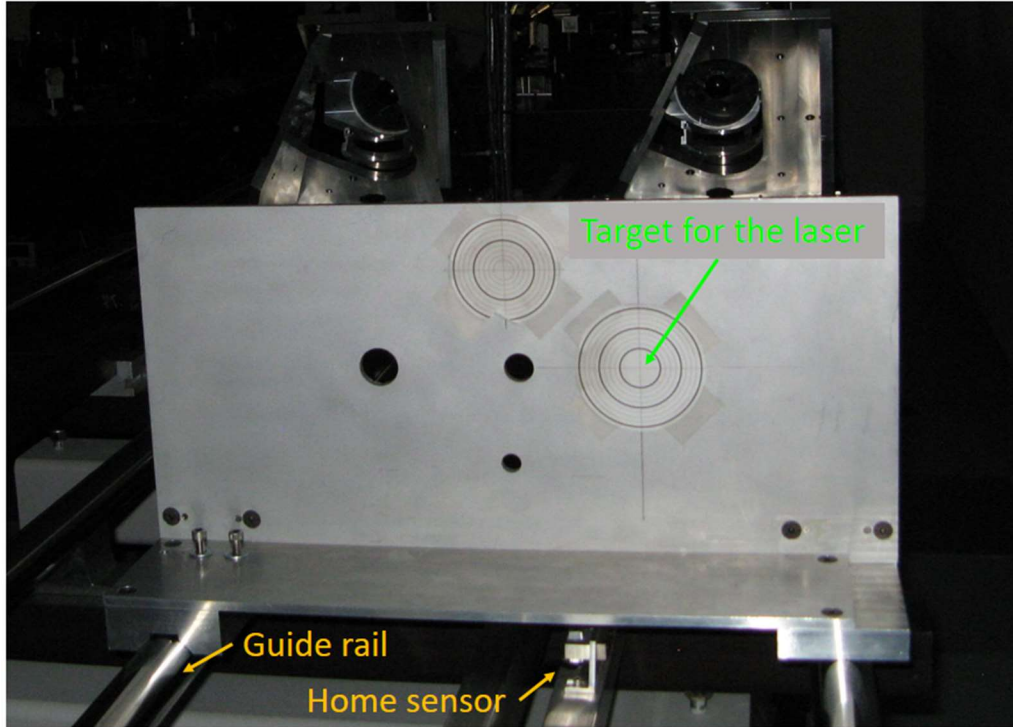

Figure 7. The back of the front rail target.
6. Check the cart alignment by looking at the laser beam at the back of the front rail target (Figure 7). Adjust the micrometers at the backside of the cart primary by hand to center the laser on the target. To avoid changing the cart's focus, use only the micrometer on the top, and use the one on the north side of the two at the
12. Evaluate the rail alignment by watching the spot on the back of the rail target (Figure 7.) as the cart moves forward up to the home sensor. Try to stay away from the rail and the target as much as possible not to cause much turbulence. Usually the alignment procedure described here cannot be done much better than a residual wander of 2-3 mm ($<1/8$ ") around the target point.